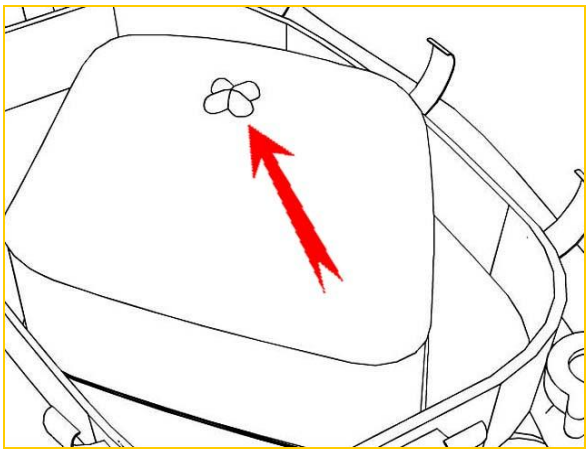

Fig 3
4. Remove the plastic nut, air filter cover and filter. (Fig 3)